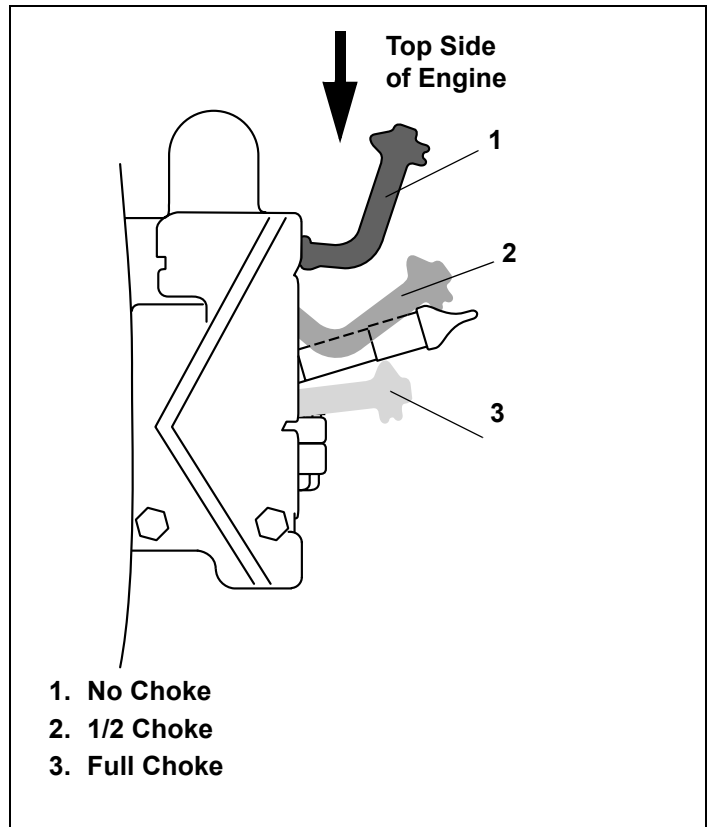

Figure 15. Choke Control Positions
10. If engine fires but does not continue to run, move choke control to "NO CHOKE" position and start engine. See Figure 15.